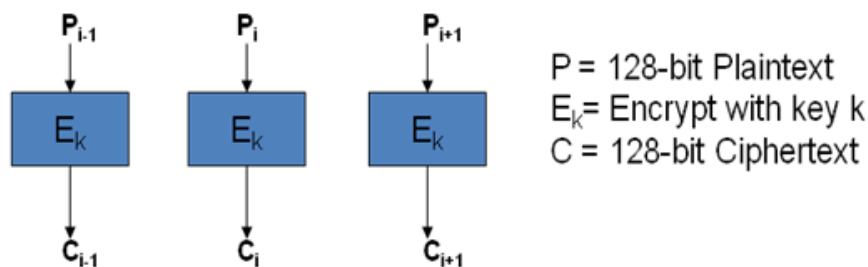

Figure 2. Electronic Code Book
Figure 2 shows how a simple block cipher called **Electronic Code Book (ECB)** constructs the encrypted data. Each block of plain text (P) is encrypted with the key (E) and outputs cipher text (C) ready for storage. Since we are using the same encryption key for every block of data, we would expect identical blocks of clear text to produce identical blocks of cipher text. This is clearly undesirable since it provides an attacker with a clue that could be used to determine the key.